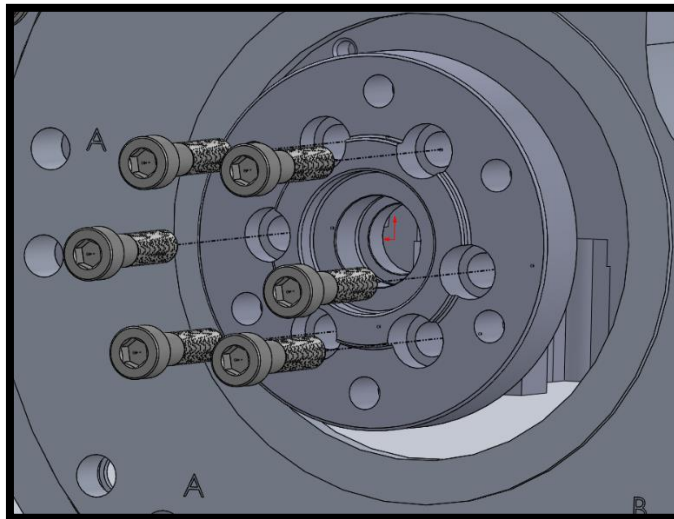

Figure 3: Example image of a Chevy Small Block crank adapter
- 3) Fit the crank adapter onto your engine crank, as seen in figure 3. The Volkswagen bolt pattern is asymmetrical, so there is only one way it will fit.